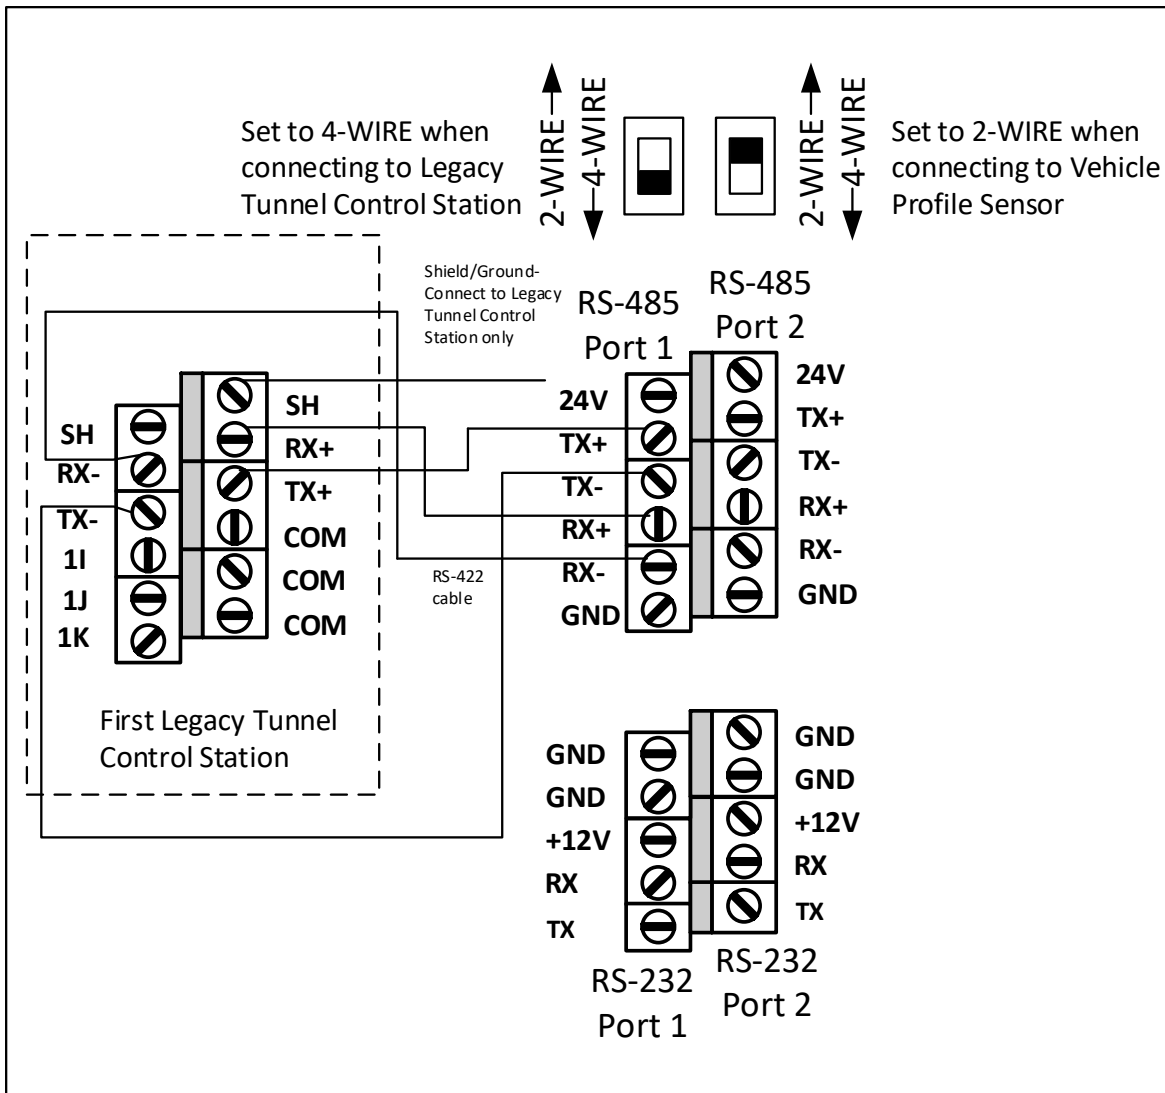

Figure 19: TCS2 to Legacy TCS Communication Wiring
- See See Figure 19: **One Primary TCS2/One or More Secondary TCS2 Units.**